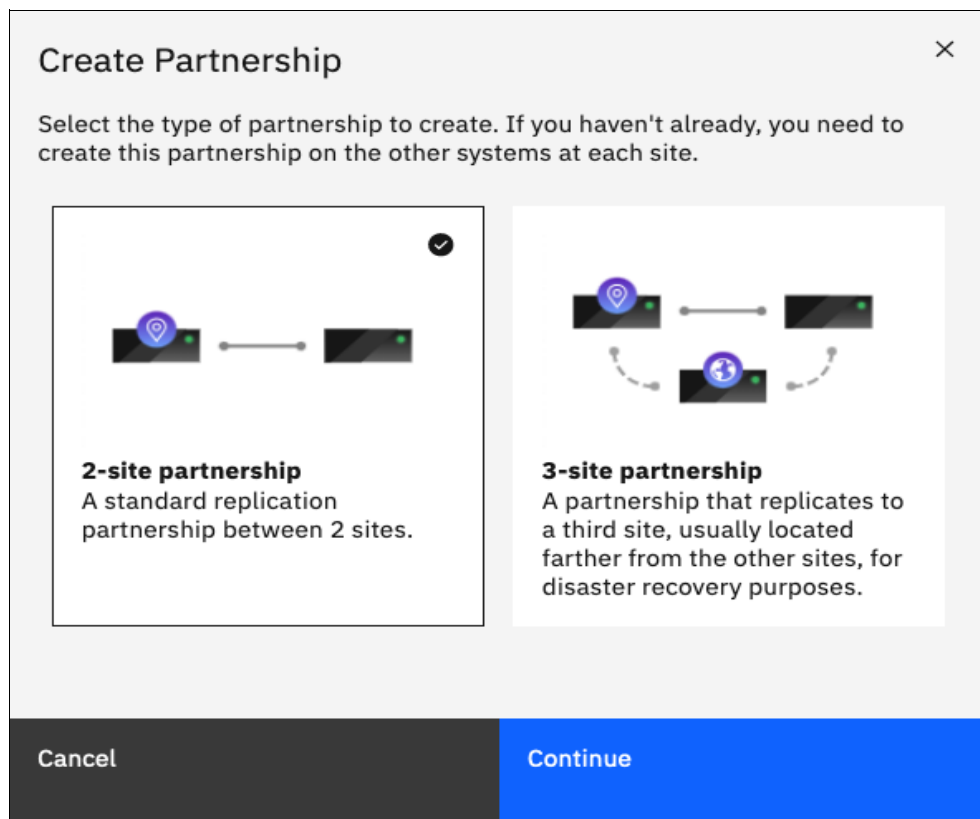

Figure 10-111 Selecting a Remote Copy topology
1. Select the Replication topology between two or three sites, as shown in the Figure 10-111. In this example, we use a two-site partnership.